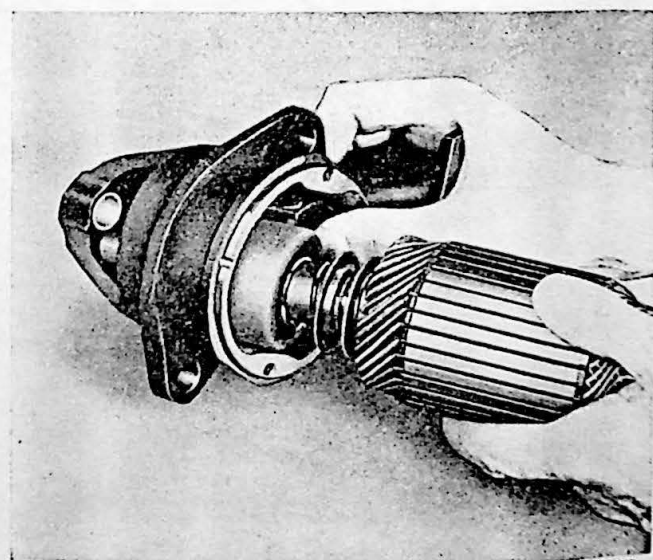

Fig. 10-14. Removing the pinion and rotor
5. Lift out the rotor with pinion housing, Fig. 10-14. This can be done after the pivot bolt for the solenoid engaging fork has been unscrewed.